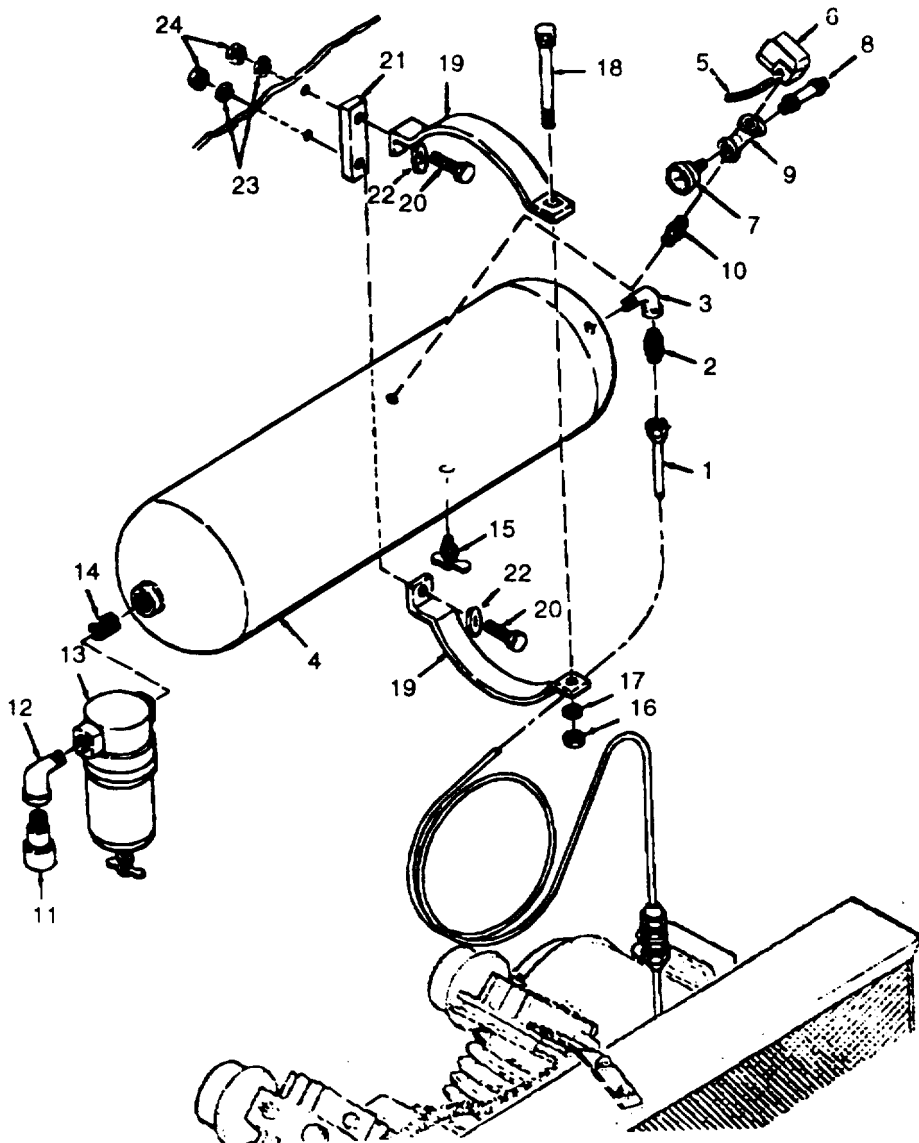

Figure 5-3. Air Tank Reservoir, Removal/Installation.
##### **a. Removal** (Refer to figure 5-3.)
- (2) Clean metal parts, ex., elbow, bolts, lockwashers, etc., with a lint-free cloth (item 4, appx D), or medium bristle brush (item 2, appx D), and dry cleaning solvent (item 18, appx D). Allow parts to air dry.
d. **Installation.** (Refer to figure 5-3).